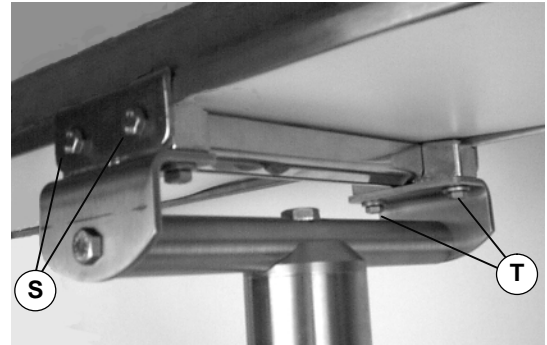

Figure 17
### 3. Attach clamp plates on each side of conveyor (Figure 17). Tighten the screws (S) to 10.4 Nm.